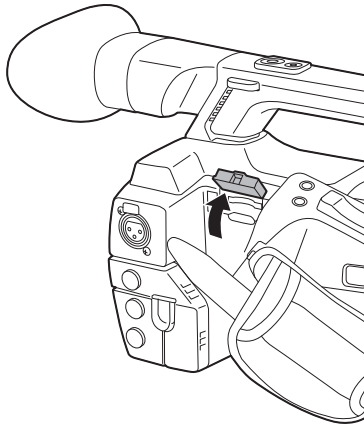

Fig. 1
**1** Open the slot cover. (Fig. 1)